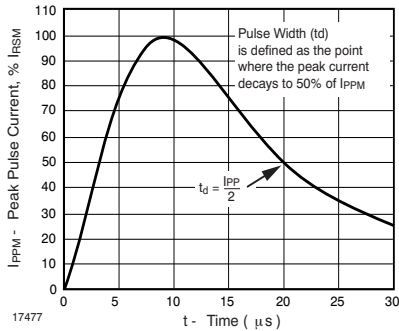

Figure 2. Pulse Waveform
1) 8/20 μs waveform used (see figure 2)